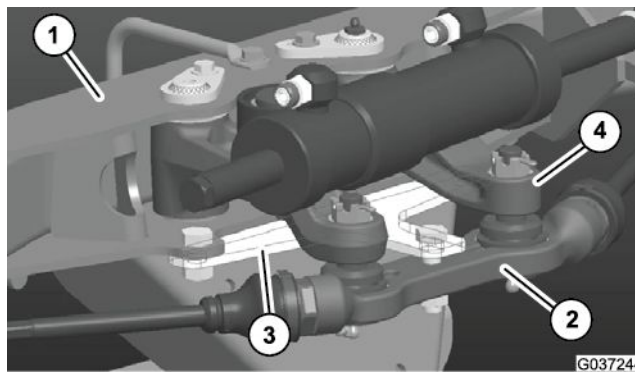

Figure 259
7. Secure the front alignment tool (refer to Special Tools \(page 6–4\)) to the front axle and the center link (Figure 259). If necessary to align the front steering components with the alignment tool, loosen the hydraulic hoses on the front steering cylinder to allow the front cylinder movement independent of the rear steering cylinder. Then, use a large adjustable wrench to rotate the front steering arm so that the front steering components are aligned with the alignment tool.